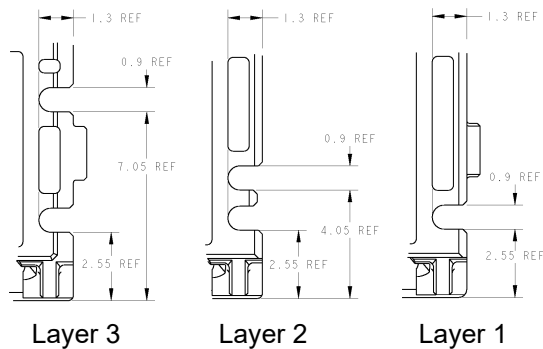

Fig.11
As shown Fig.11, the identification can also be done by differences of cutting shape at both sides of 0.5 type housing.
**Note** Layer 3 of 0.5+1.5type has same cutting shape as the Layer 1. (Fig.11)